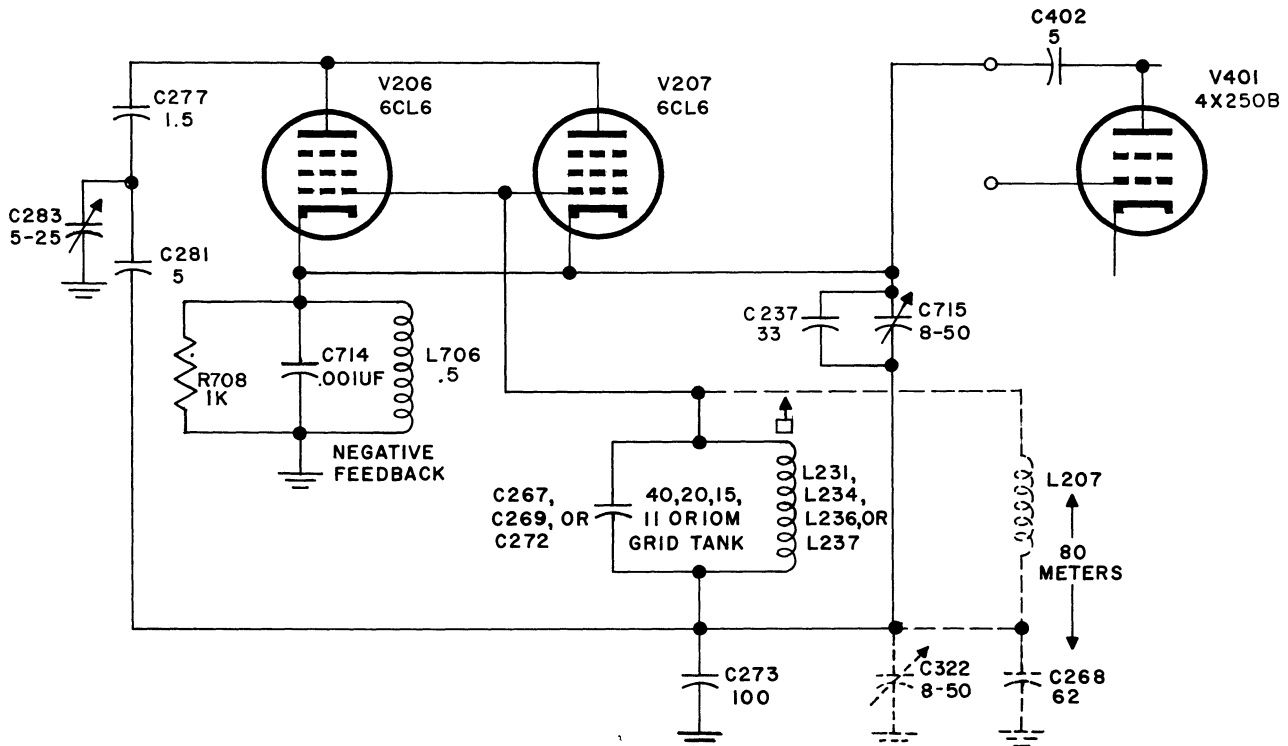
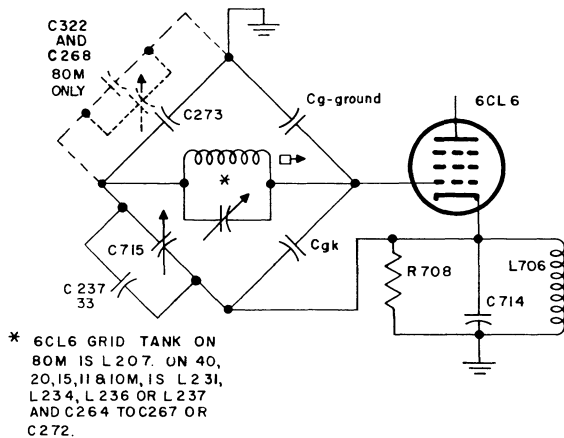

Figure 4-9. 6CL6 Driver Feedback and Grid-to-Cathode Neutralization Circuits, Simplified Schematic Diagram
Figure 4-10. 6CL6 Driver Grid-to-Cathode Neutralization Bridge Diagram
(1) NEGATIVE FEEDBACK. A portion of the power amplifier r-f output is fed back through C402 into the 6CL6 cathode circuit for the ultimate purpose of improving final amplifier stage linearity. (See figure 4-9.) At the 6CL6 cathodes, the feedback circuit consists of R708, L706 and C714. The choke, L706, provides a d-c return for the cathode. R708 loads the choke to lower the circuit "Q", preventing oscillations which could be caused by L706 resonating at the feedback frequencies. C714 forms a capacitive voltage divider with C402 off the 4X250B plate to provide the proper value of feedback voltage which produces approximately 12 db of feedback.
(a) 6CL6 GRID TO CATHODE NEUTRALIZATION. (See figures 4-9 and 4-10.) The cathode feedback voltage in the 6CL6 stages will appear on the grid tank circuits to cause stage oscillation, unless the feedback is neutralized. On the bridge diagram of figure 4-10, the feedback voltage is carried over from cathode to grid by the tube's internal grid-to-cathode (Cgk) capacitance. This capacitance forms a voltage divider with the
tube's grid-to-ground (Cgg) capacitance. The two capacitances, in series, comprise one side of the neutralization bridge. Neutralization is provided on the 40, 20, 15, 11 and 10-meter bands by condenser C715 and C273, which are in series and form a voltage divider from the 6CL6 cathode to ground. In this position, these capacitors form the other side of the neutralization bridge to balance out the undesired feedback voltage impressed across the Cgk and Cgg arms of the bridge. With the grid tank circuit across the midpoint of both bridge arms, the feedback is balanced out to eliminate this source of stage oscillations. The components of the bridge are shown on the simplified practical diagram of figure 4-9. On 80 meters only, C268 and C322 are placed in parallel to C273 to provide sufficient divider capacitance for neutralization at the 80-meter frequencies.